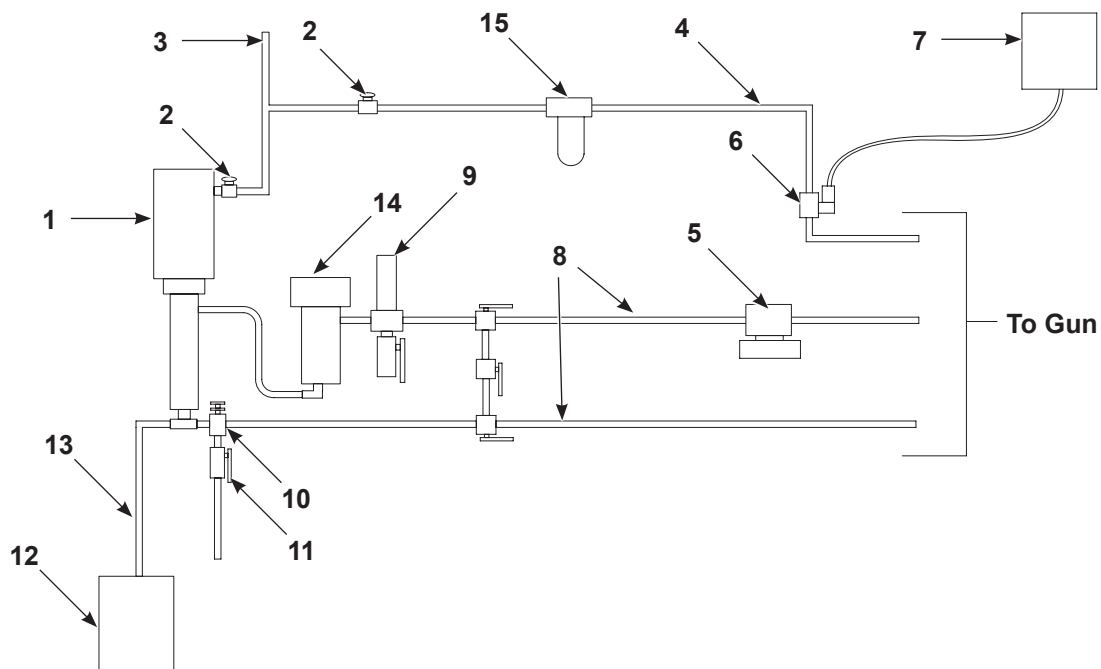

Figure 4 Typical Circulating Fluid System
1. See Figure 4. Open the drain valve (11).
2. Close the circulation valve (10).
5. Open the ball valve on the bottom of the filter assembly (9) and drain the solvent into a container.
See Figure 4.